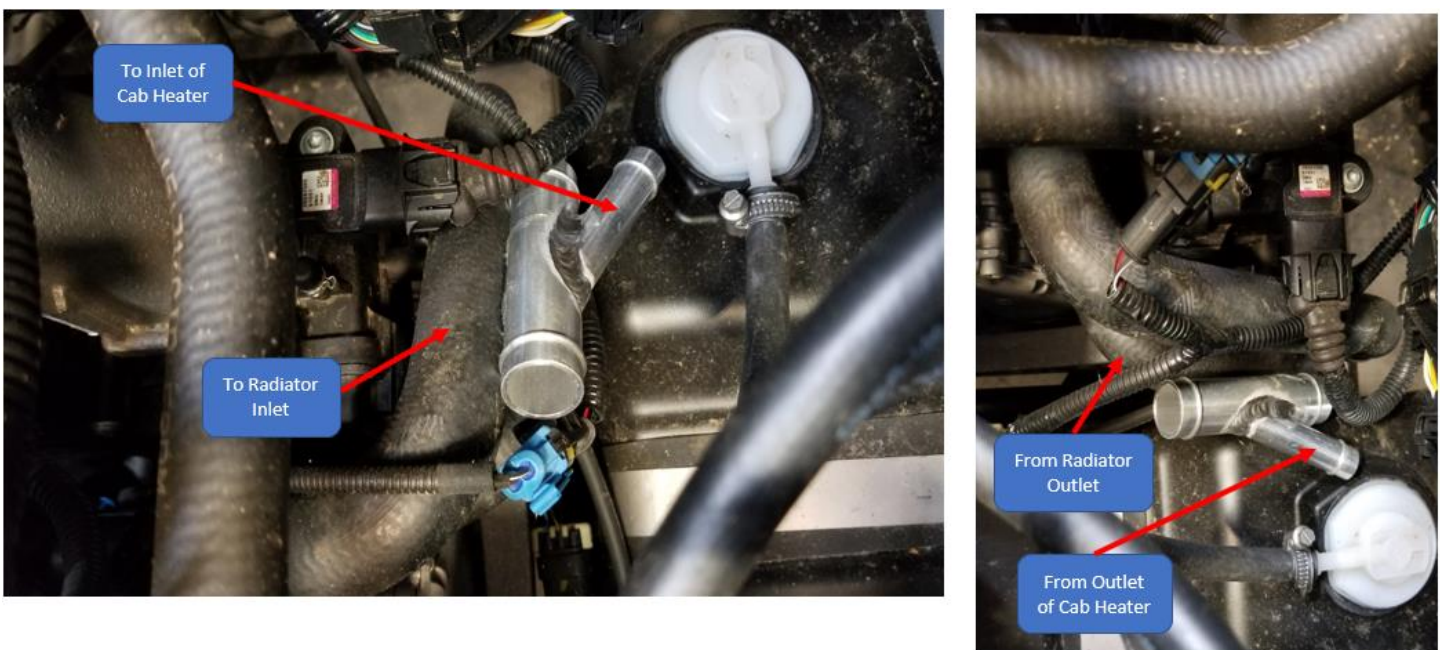

Figure 16
32. Follow the vehicle coolant lines from the radiator, through the center tunnel and toward the passenger side where they enter the engine block. Position the 1" Aluminum Y's as shown in Figure 16, with a pen make a mark at the center of both aluminum Y's and then set them aside. Approximately 1/2" to both sides of the marks, make another marking. The two outer marks indicate the cut lines.
34. Insert the 1" Aluminum Y's as shown in Figure 16. Secure the 1" ends of hose to the Aluminum Y using the #16 hose clamps.